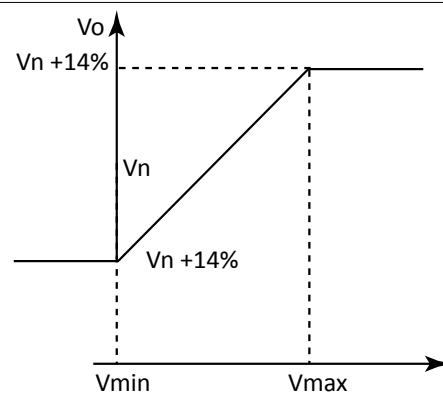

Figure 23- With saturation of the output voltage
- Maintain the minimum (or maximum) voltage value that can be reached (Figure 23- ).